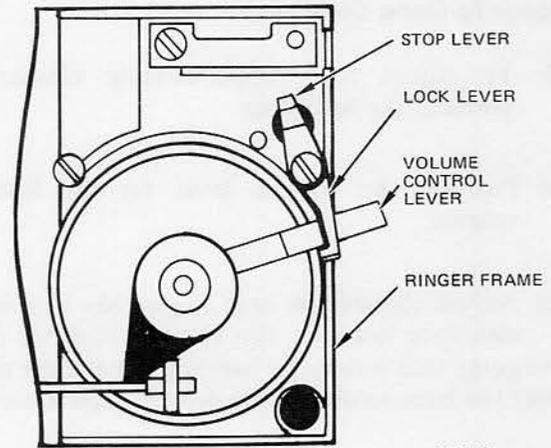

Figure 5: Lock Lever in Locked Silent Ringer Position
8.02 The ringer can be silenced by loosening the terminal board mounting screw that holds the stop lever and moving the stop lever to allow the volume control lever to be placed in the ringer silencing position on the ringer frame. The volume control lever can be locked into place by positioning the lock lever over the volume control lever as shown in Figure 5. Tighten the terminal board mounting screw after adjustment is complete.